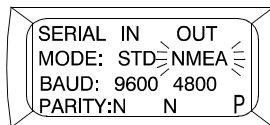

Figure 23. NMEA Display
- Press the up arrow key (figure 1, item 2) or down arrow key (figure 1, item 3) until NMEA is flashing for SERIAL OUT MODE (figure 23).